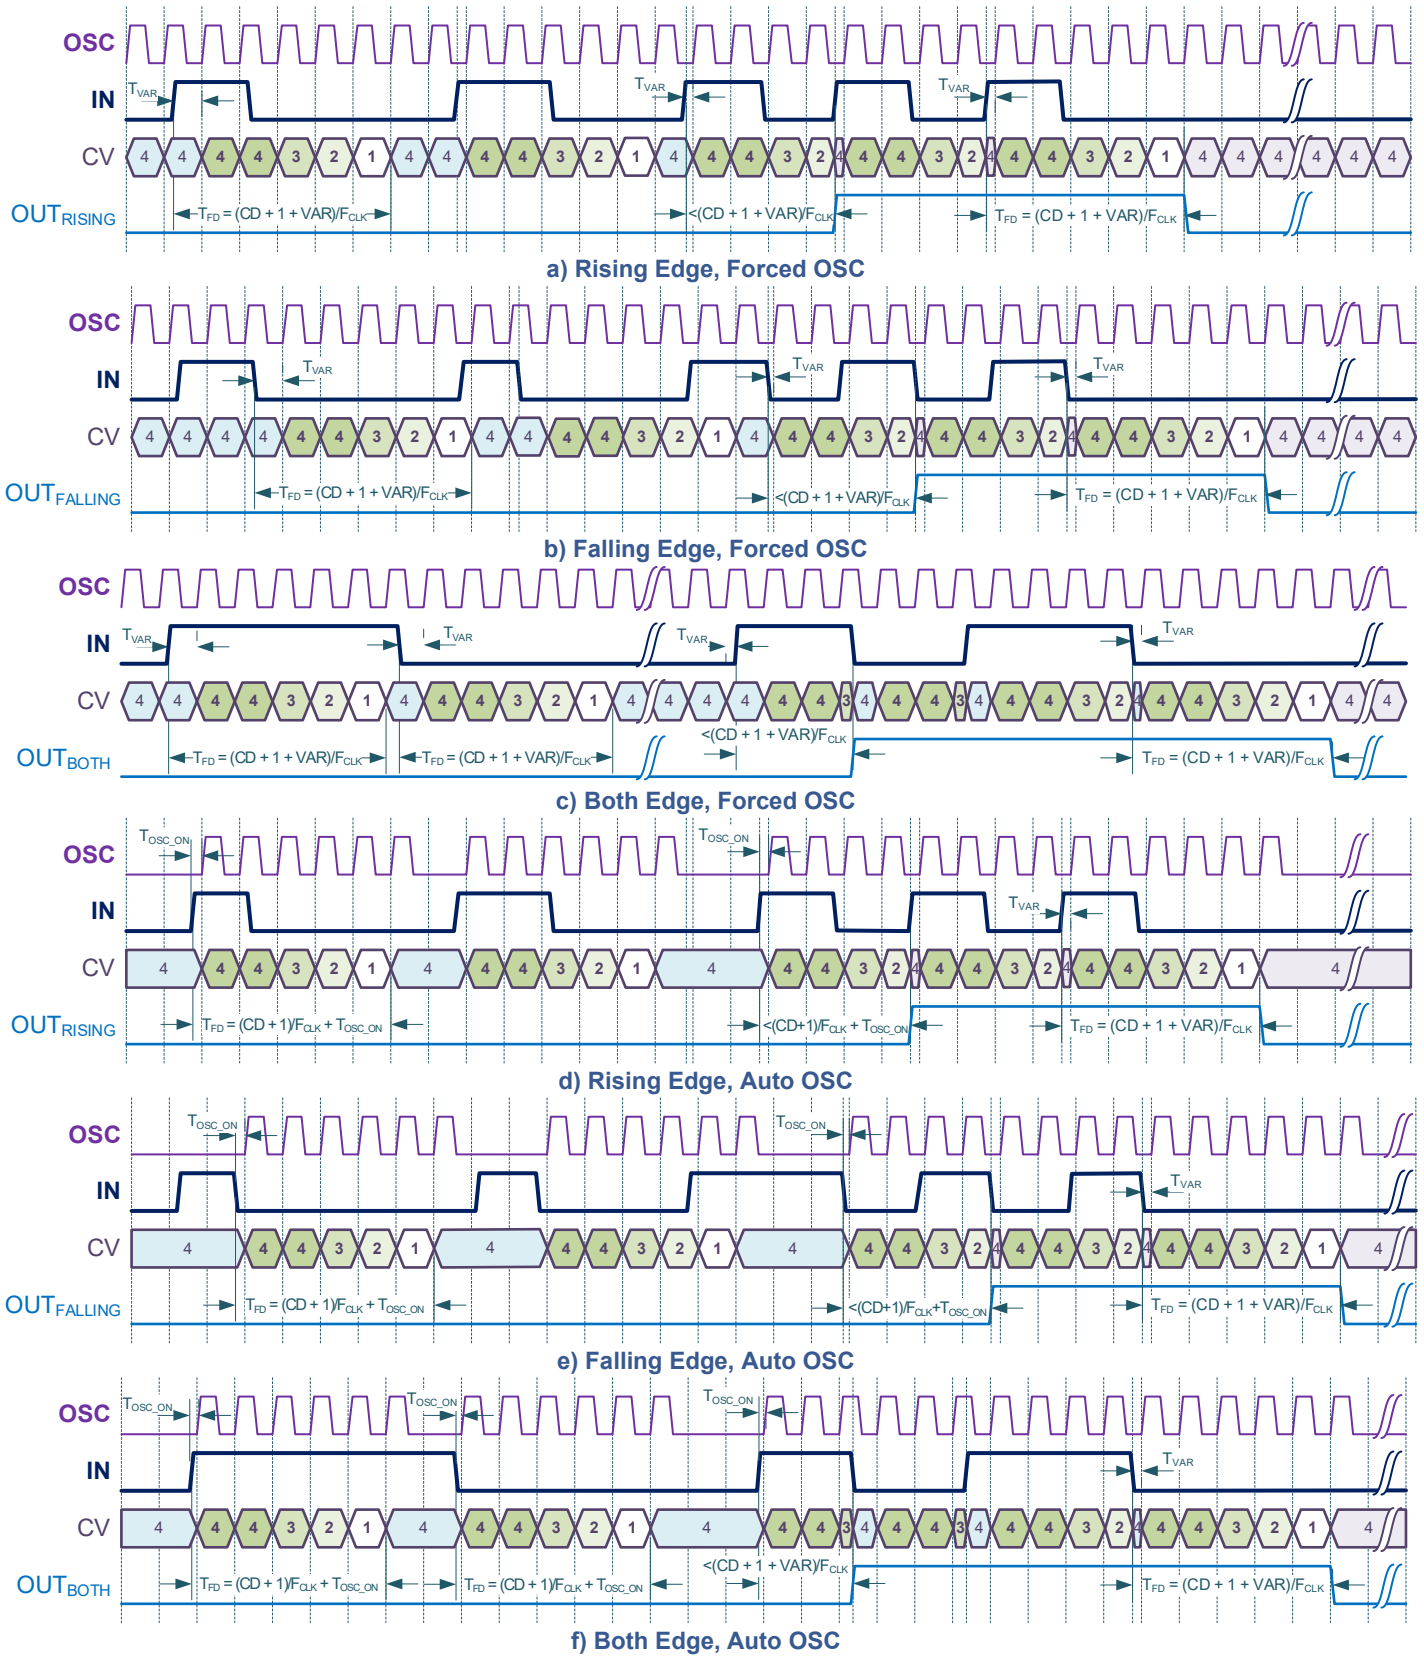

Figure 7.12. Frequency Detector Mode (Control Data: 4)
The timing diagrams of the Frequency Detector Mode is shown in the Figure 7.12.
- Frequency Detector (Figure 7.12)